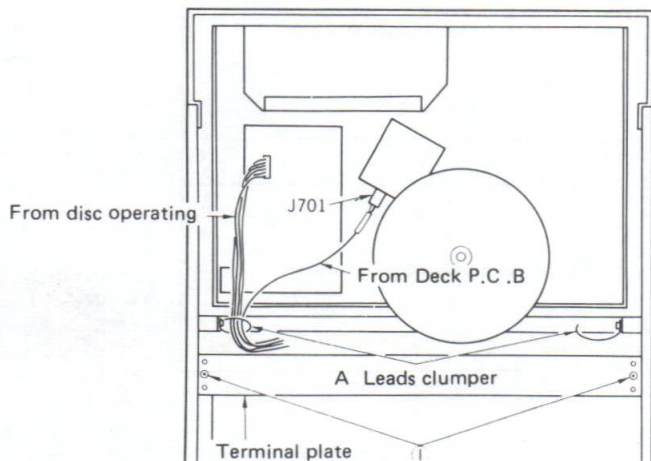

Fig. 5
- 5) Now, from the chassis side (rear panel), remove the five fixing screws F. (Refer to Fig. 5.)
- 3) Remove the two screws ① (black bind head tapping screw, 3 x 16) shown in Fig. 5.